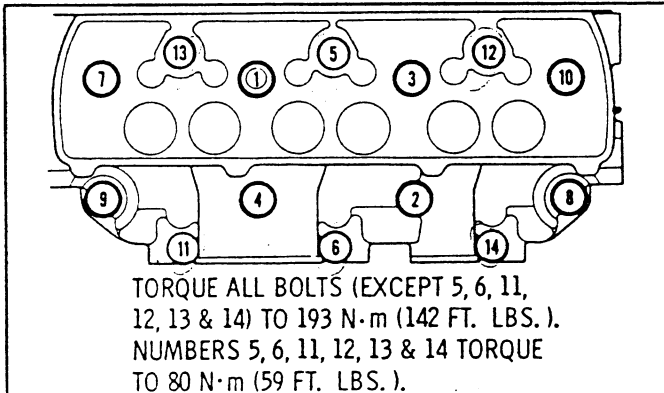

Fig. 25 Cylinder Head Torque Sequence
- Torque all cylinder head bolts in sequence (Fig. 25) except number 5, 6, 11, 12, 13 and 14 to 135 N·m (100 lbs. ft.). Torque number 5, 6, 11, 12, 13 and 14 to 55 N·m (41 lbs. ft.).